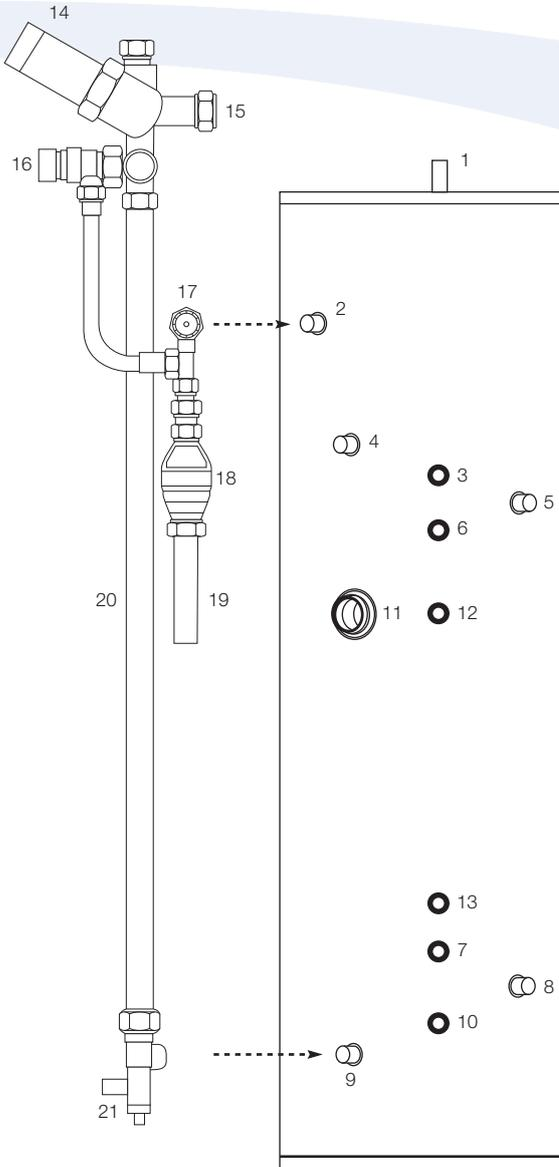

Figure 2-2: Cylinder connections and controls
All Pipework connections to the cylinder **must** be made in accordance with Figure 2-2.
2. Locate the dual thermostat in the stainless steel pocket (refer to Figure 2-2 for location) and secure using the retaining screws on the thermostat housing.